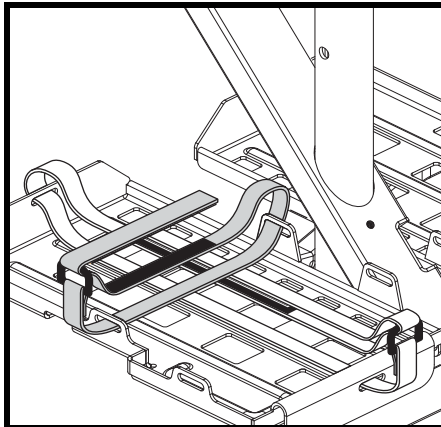

Figure 16A. Side-to-Side Strap
3. Route the side-to-side strap in the same fashion as the front-to-back strap. Ensure the side-to-side strap runs over the top of the front-to-back strap. **See figure 16A.**